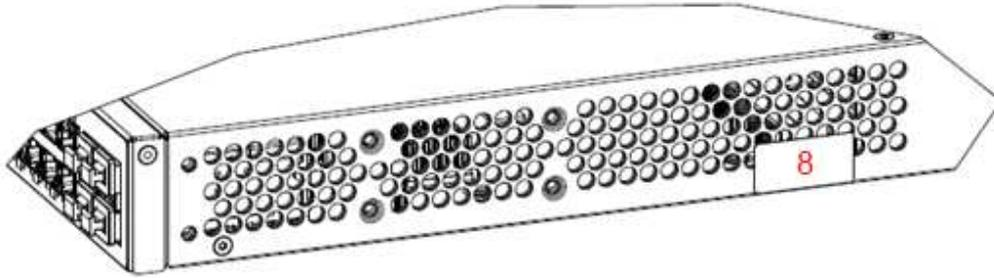

Figure 15 – Right-Hand Side Tamper-Evidence Label Placement
On the right-hand side of the switch (when looking at it from the front), one (1) Tamper-Evidence label will be placed over the center screw. This will prevent exposure of secure components within the module. To secure the center screw, place one label (label 8) horizontally across the bottom of the module, covering the center screw. This will slightly cover the ventilation holes on the right-hand side. The label will not overlap to the bottom of the module. Figure 15 shows the proper placement of the Tamper-Evidence label over the center screw located on the right-hand side of the module.